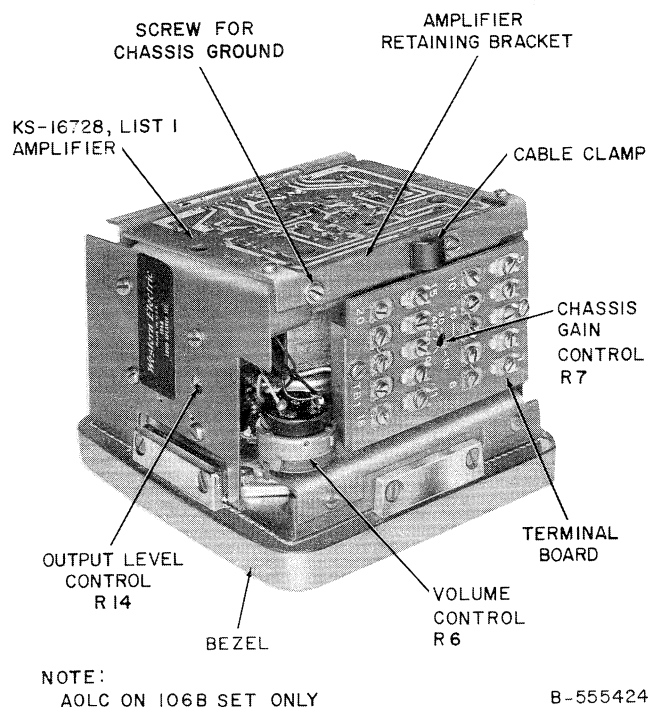

Fig. 2—106A (MD) or 106B (MD) Loudspeaker Set, Cover Removed
106A (MD) Set (Fig. 2)
106B (MD) Set (Fig. 2)